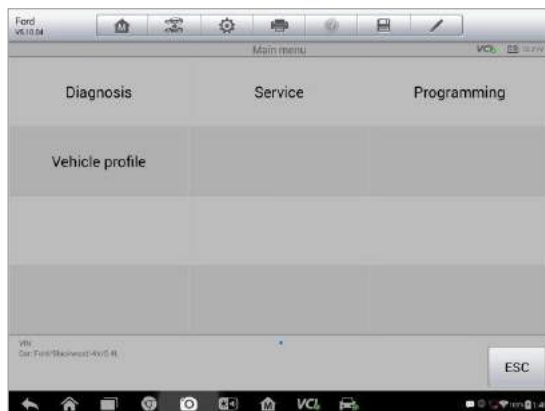

Figure 4-2 Sample Vehicle Diagnostics Screen
5. Tap **Done**. The vehicle will be identified in a few seconds, and once the matching is successful, the system will guide you to the Vehicle Diagnostics screen directly. (Figure 4-2)
The Vehicle Diagnostics screen (Figure 4-2) has 2 main options: